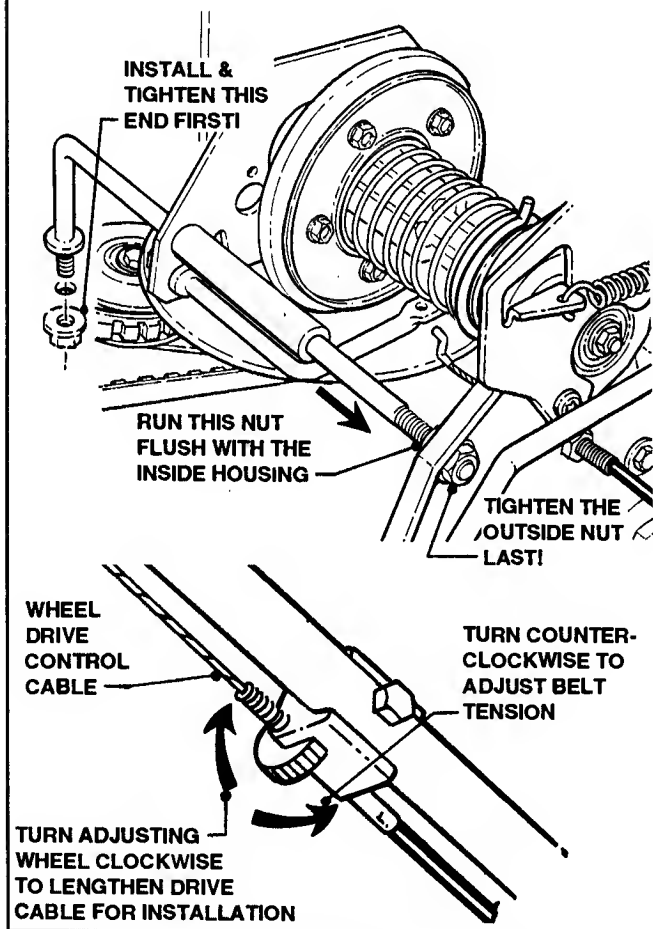

FIGURE 3.18
17. Reinstall Driven Disc Assembly in reverse order of removal. See Figure 3.18 for installing the Guide Rod and adjustment of the Wheel Drive Control Cable.
See Page 12 for Figure 3.18.
- A. When reinstalling the Driven Disc Assembly, install the Guide Rod as shown below in Figure 3.18.